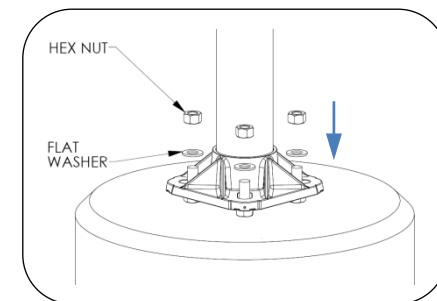

Fig. 4 – Install pole
1. Lift the light pole into position over the installed anchors as shown in Fig. 4. Ensure that the base plate is resting on all four washers.
2. Install washer and hex nut as shown in Fig. 4.